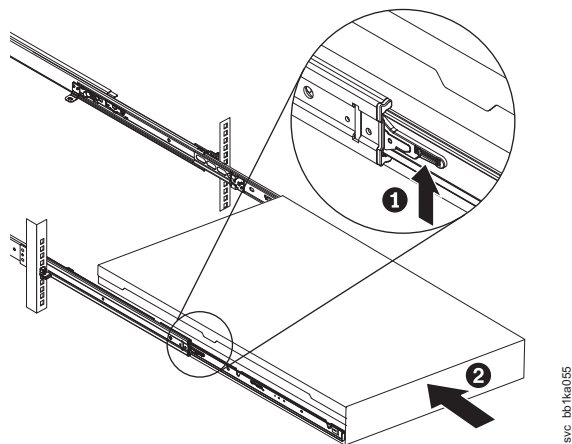

Figure 96. Raising the locking levers of the slide rails of the rack
11. Lift the locking levers (**1** in Figure 96 on page 118) on the slide rails and push the server **2** all the way into the rack until it clicks into place.